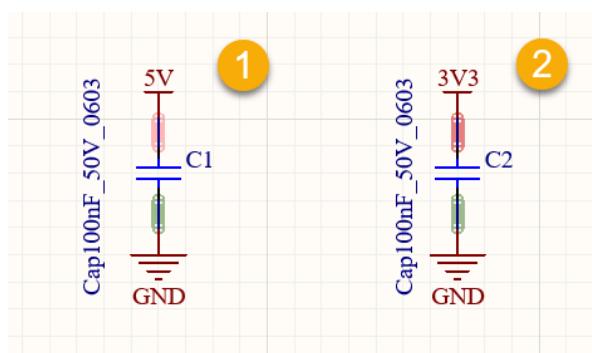

Figure 14. Selecting Capacitor symbol bodies
40. In the `Processor_Interface.SchDoc`, select capacitors C1 and C2 in order using **Shift+Select** as shown in Figure 14.